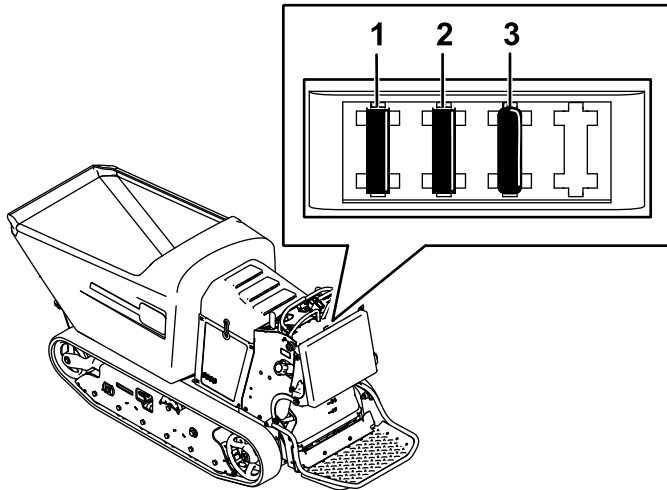

Figure 36
2. Pull out the fuse to remove or replace it (Figure 36).
Note: Ensure that the correct-size fuse is installed (Figure 36).